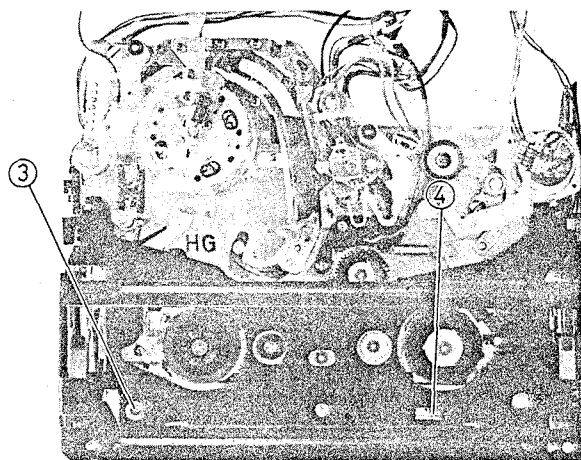

Fig. 2-48 Cassette Holder Removal
Cassette Holder Removal (Figs. 2-48, 2-49, 2-50, 2-51, 2-52)
3. Remove one (1) screw holding the safety tab switch. (See Fig. 2-48)
4. Remove the cassette holder. (See Figs. 2-48, 2-49, 2-50, 2-51, 2-52)